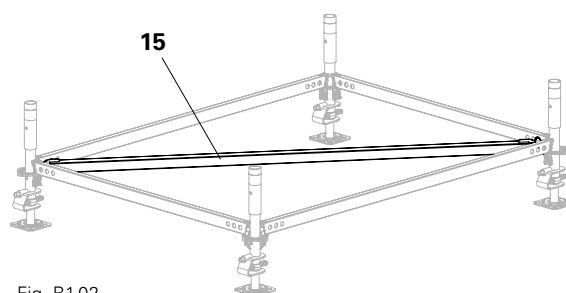

Fig. B.1.02
2. Align the frame with the H-brace (**15**) at right angles. (Fig. B.1.02)